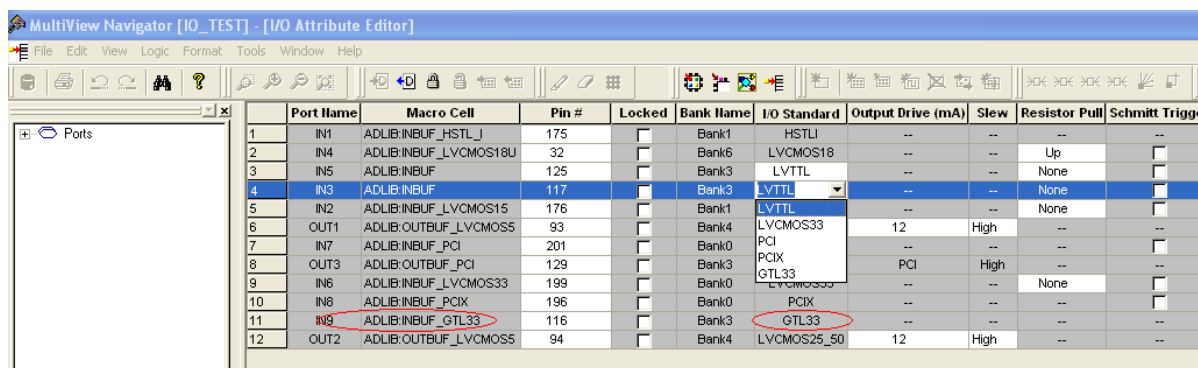

Figure 8-6 • Assigning a Different I/O Standard to the Generic I/O Macro
- Users will need to use the I/O Attribute Editor in Designer to change the default I/O standard if needed (see Figure 8-6 on page 221).
- The I/O standard of technology-specific I/O macros cannot be changed in the I/O Attribute Editor (see Figure 8-6).